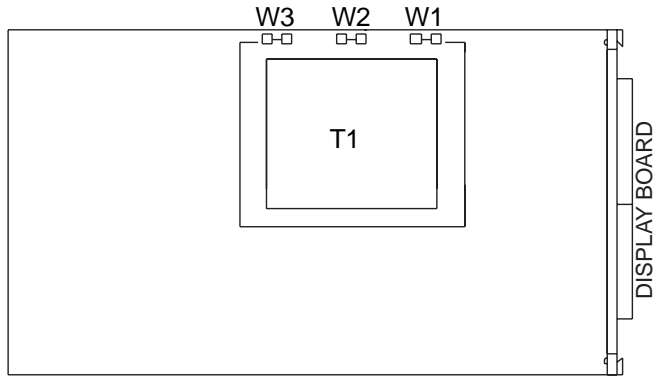

Figure 6-1. Main Board Power Jumpers (W1, W2, W3)
2. Locate the solder jumpers W1, W2, and W3 (located near the edge of the main board alongside the transformer - refer to Figure 6-1).
Figure 6-1 shows the W1 through W3 jumpers on the main board.